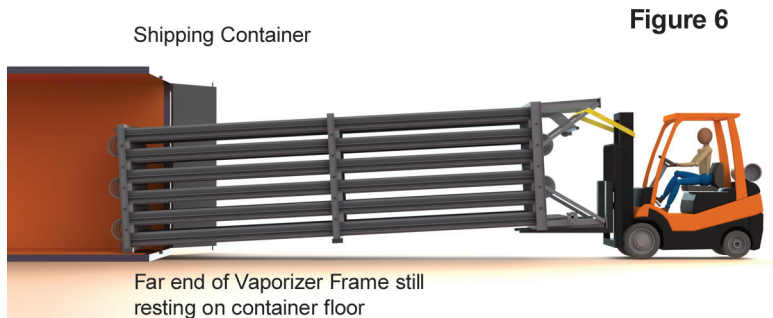

Figure 6
- 5.11 **"STOP"** pulling when the far end of the vaporizer is near the end of the container, but the far end frame is still securely resting on the container floor. (Refer to Fig. 6)